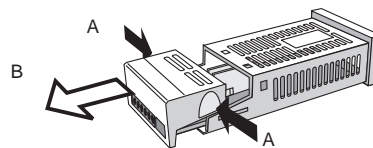

Fig.8a
- 2) Remove the instrument from its case by pushing the locks (see Fig.8a [A]) and then slip out the instrument until the first stop (few mm.) (see Fig.8a [B]).